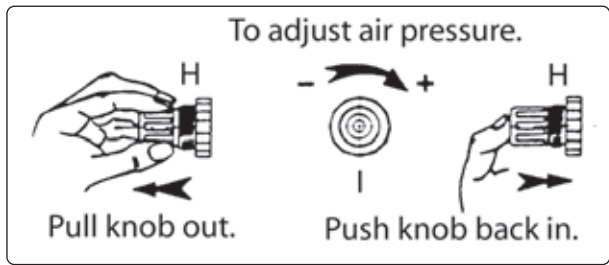

fig.3
- 4.1.7. Pull out the regulator knob (Fig.3.H) to enable adjustment.
- 4.1.10. Adjust the air pressure by turning the regulator knob to increase or decrease the pressure (Fig.3.I). When the correct air pressure is reached (between 2 and 6 bar), lock the regulator by pushing the knob (H) back in.
- 4.2.11.7. Pull out the regulator knob (Fig.3.H) to enable adjustment.
- 4.2.11.10. Adjust the air pressure by turning the regulator knob to increase or decrease the pressure (Fig.3.I). When the correct air pressure is reached (between 2 and 6 bar), lock the regulator by pushing the knob (H) back in.